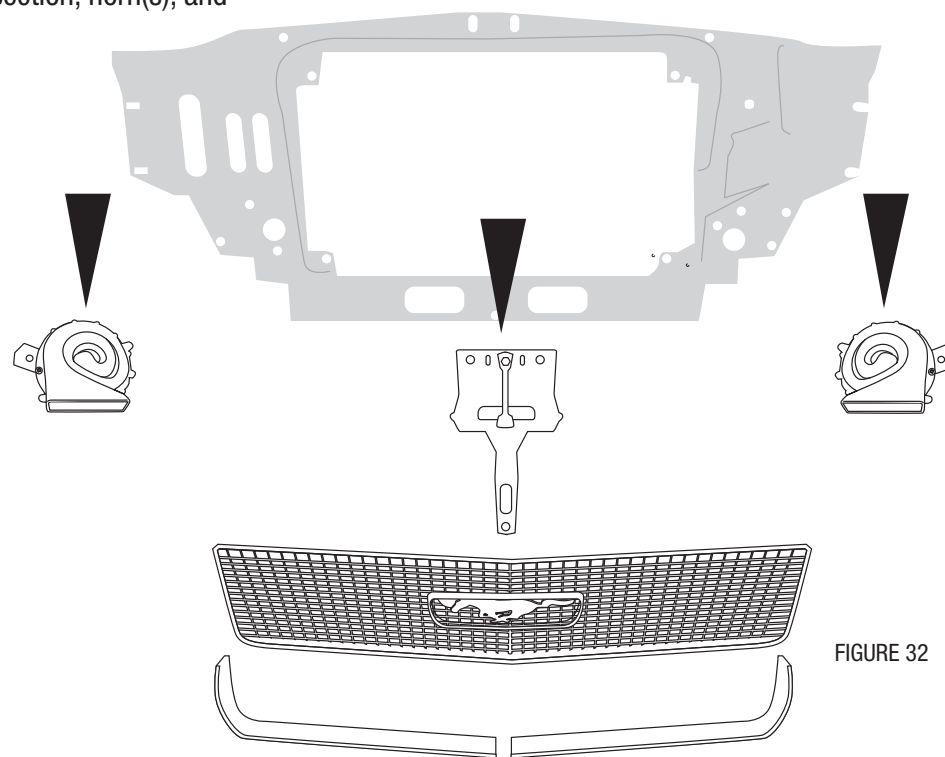

FIGURE 32
**STEP TWO:** During the next steps you'll be installing the condenser, drier, and routing the refrigerant hoses along with the hi/low safety switch. Since much of this is installed in the OEM location for the condenser, you'll need to remove the center grill section, horn(s), and latch support assembly (see figure 32). Be sure to retain all the mounting screws – you'll reinstall these pieces in the exact reverse order with the OEM screws.